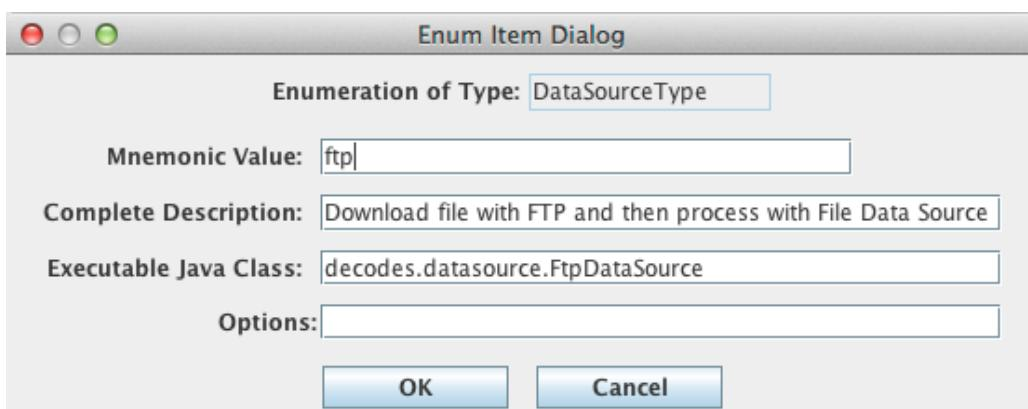

Figure 7: Form for Adding FTP Data Source in Reference List Editor (rredit).
- Make sure an entry exists with name “ftp”. If not, hit Add and fill out the form as shown in Figure 7. Be sure to type the Java Class Name exactly as shown. Capitalization matters: